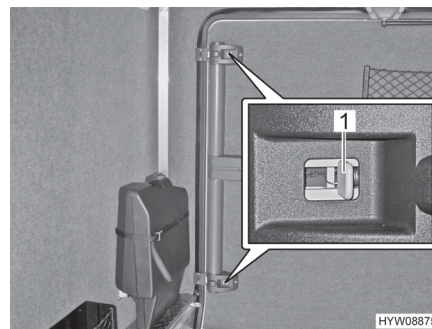

Fig. 56 Garage door (interior emergency release)
- Press the grey slider (Fig. 56,1) of the upper and lower lock toward the centre of the door.